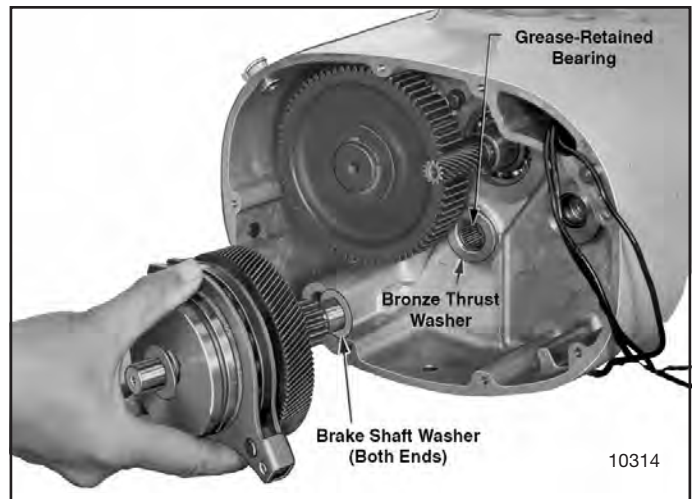

Figure 7-7. Removing Load Brake and Clutch Assembly (1/4 & 1/2 Ton Hoists)
(1) On 1/4 through 1/2 ton hoists, pull load brake/clutch assembly if equipped or overload clutch assembly and the shaft washers from inside hoist frame (fig. 7-7). Caution: Grease-retained bearing has 36 rollers (all capacities) and may be reinstalled unless rollers are broken or missing or cup is damaged.